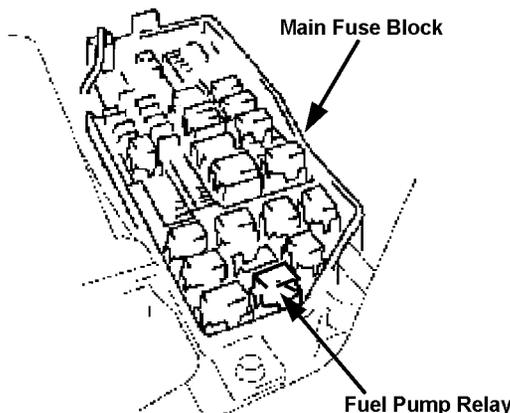

Figure MA014-16
1. Relieve fuel pressure by starting the engine, then remove the fuse from the engine compartment relay box (Figure MA014-16), the engine will stall.